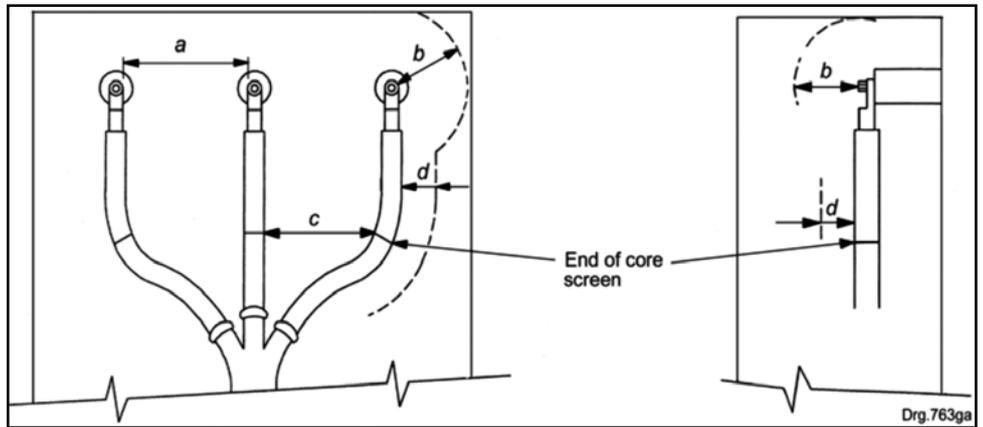

Figure 4: Bare termination Air-insulated (type 1)
Air was the first insulating medium for busbars. It was replaced with oil, and then with the introduction of SF6 insulation, busbar clearances could be reduced tremendously. This allowed the cable box sizes to be reduced. Figure 4 shows how switchgear sizes have reduced with the introduction of new insulating technologies. Along with the reduced sizes of cables boxes, came the reduced clearances between phases and phase to earth. This reduction in of clearances required new designs of MV cable terminations.
- Type 1 termination - lugs connected onto bushings or post insulators, uninsulated at the terminal fixing point, figure 4.